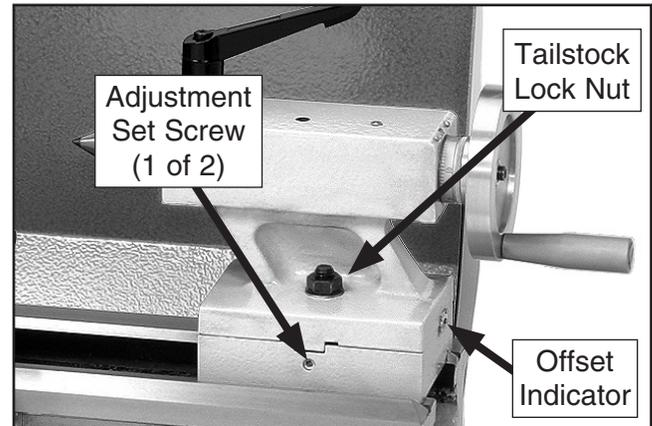

Figure 39. Left offset adjustment.
1. Loosen the tailstock lock nut (see **Figure 39**).